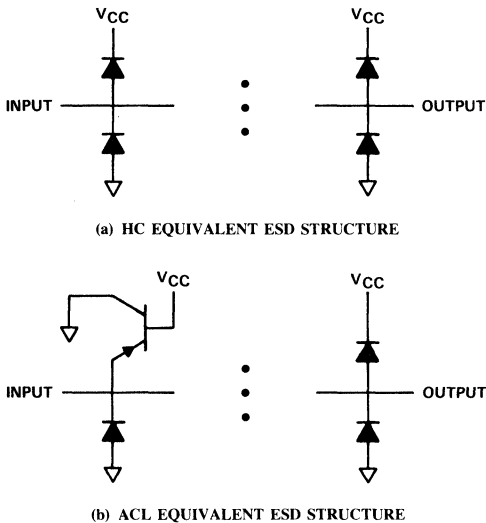

Figure 1. Simplified ESD Structures for HC and ACL Devices
Whenever a system incorporates the use of multiple  $V_{CC}$  supplies or partial power-down, the designer must take into account several important device parameters if he is using High-Speed CMOS (HC) or Advanced CMOS (ACL) devices. This is necessary to avoid excessive power dissipation and prevent damage to a device that could lead to a degradation in the reliability of the device. These parameters are the continuous input and output diode currents ( $I_{IK}$  and  $I_{OK}$ ) and the continuous output current ( $I_O$ ).  $I_{IK}$  and  $I_{OK}$  refer to the continuous current that is flowing through the input and output electrostatic discharge (ESD) protection circuits (Figure 1 shows functionally equivalent schematics of the ESD structures for HC and ACL devices).